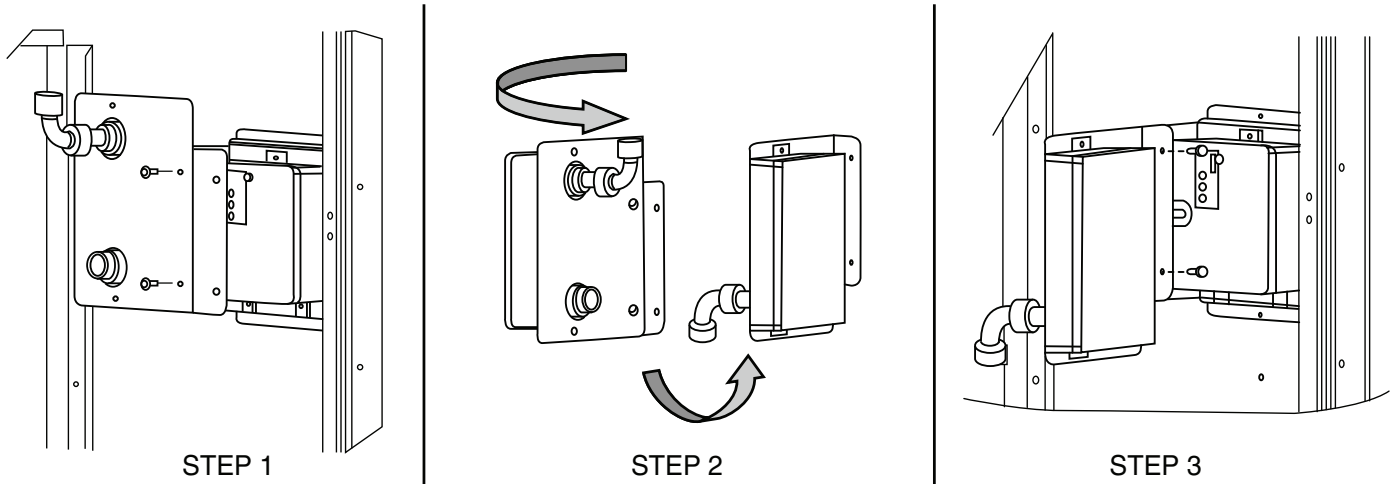

Fig. 54 — Completing Installation of Return Air Smoke Sensor
1. Unscrew the two screws holding the Return Air Smoke Detector assembly. See Fig. 54, Step 1. Save the screws.
2. Turn the assembly 90 degrees and then rotate end to end. Make sure that the elbow fitting is pointing down. See Fig. 54, Step 2.
3. Screw the sensor and detector plate into its operating position using screws from Step 1. See Fig. 54, Step 3.